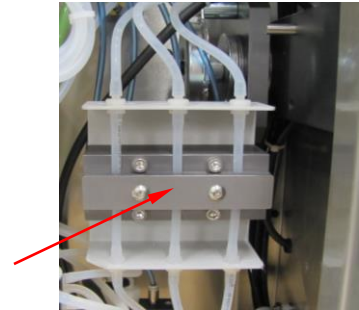

Figure 1
1. **From the back of the TDF instrument or when tilting the instrument forward access the Enzyme Pinch Valve, shown in Figure 1.**